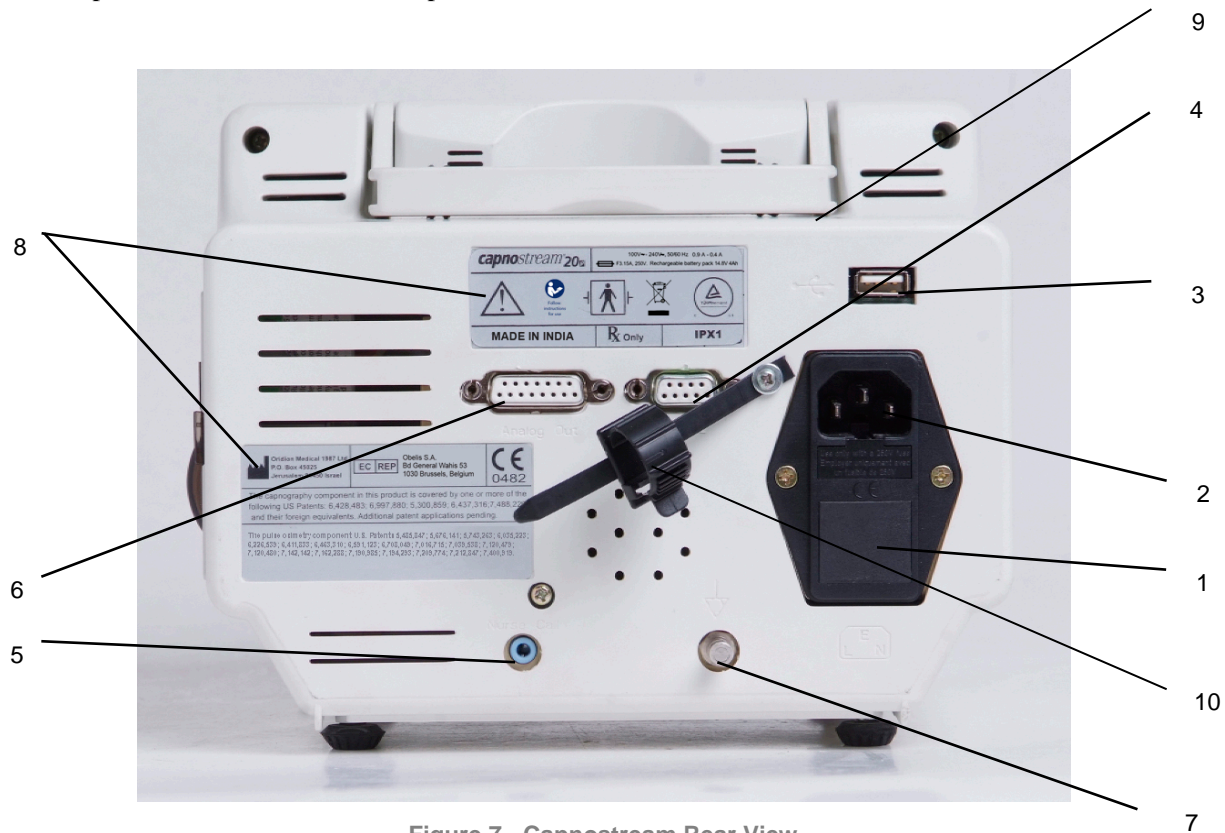

Figure 7 - Capnostream Rear View
1. Plug the electrical cord into the mains plug in the rear of the monitor (see Figure 7 - Capnostream Rear View on page 29). Clip the power cord strain relief around the cable and tighten to ensure that the power cord does not accidentally disconnect from the monitor.